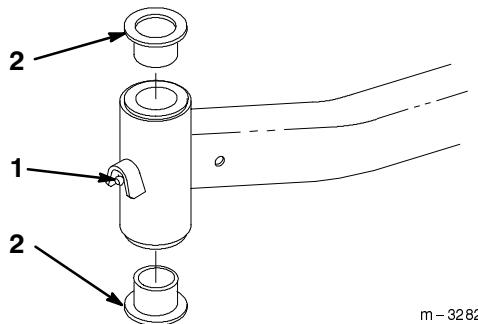

Figure 72
4. Insert a pin punch into the castor hub and carefully drive out the bushings (Fig. 72). Clean the inside of the mounting tube.
5. Grease the inside and outside of the new bushings. Use a hammer and flat plate to carefully drive the bushings into the castor hub (Fig. 72).